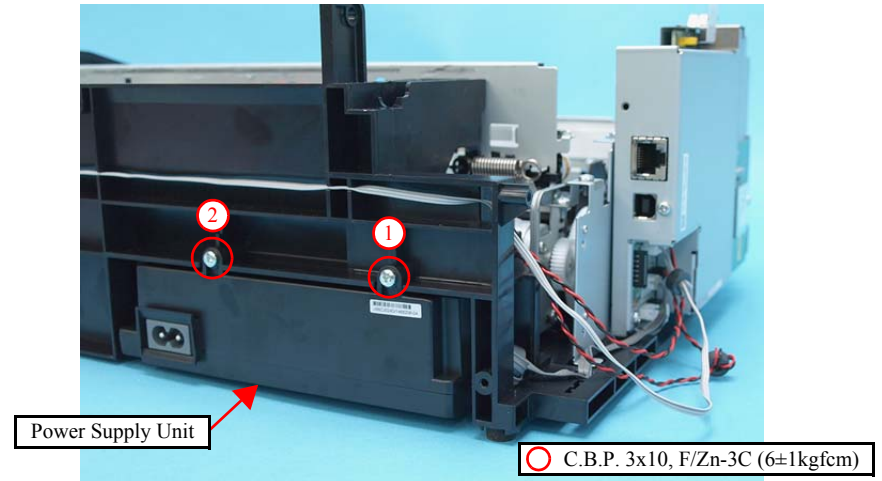

Figure 4-32. Removing the Power Supply Unit (2)
- Tighten the screws in the order given in Figure 4-32.